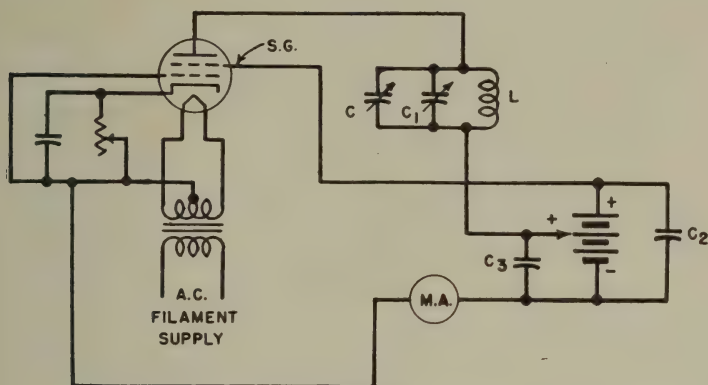

FIG. 3-12.—Dynatron oscillator.
Ans. See Fig. 3-12. This type of oscillator may be identified by the anode (SG) being at a higher potential than the plate. This condition is necessary to accomplish the